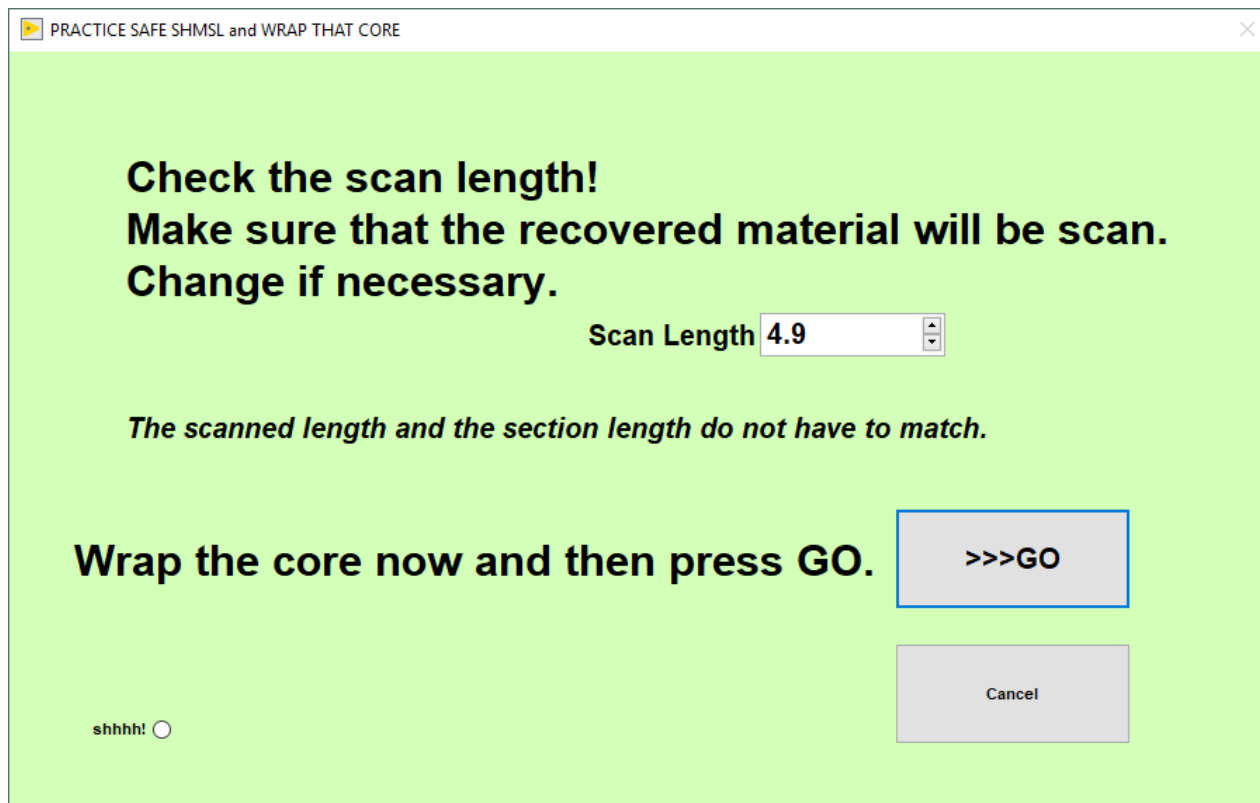

Figure 27. Section Length Confirmation Window
5. When the laser reaches the end of the section, the Section Length confirmation window will appear (Figure 27).